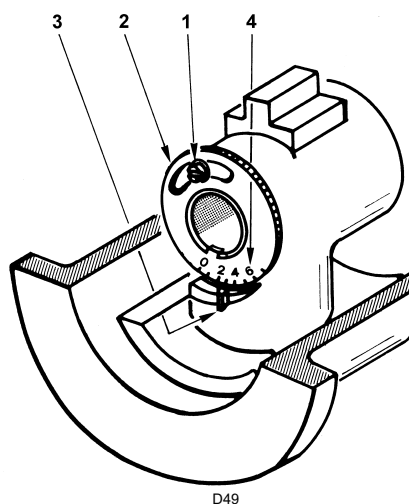

Fig. 16
- Loosen the screw 1)(Fig. 16)